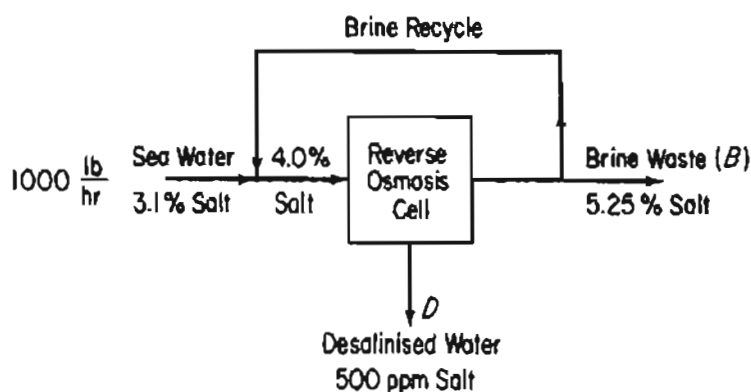

Figure P12.8
- ✓ ****12.8** Sea water is to be desalinated by reverse osmosis using the scheme indicated in Figure P12.8. Use the data given in the figure to determine:
- The rate of waste brine removal (B)
- The rate of desalinated water (called potable water) production (D)